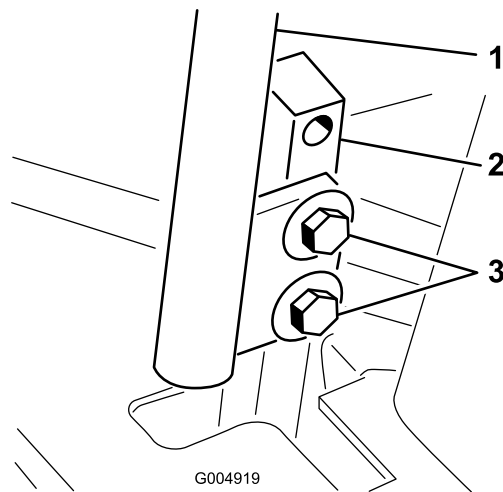

Figure 93
- Loosen the bolts securing the control levers (Figure 93).